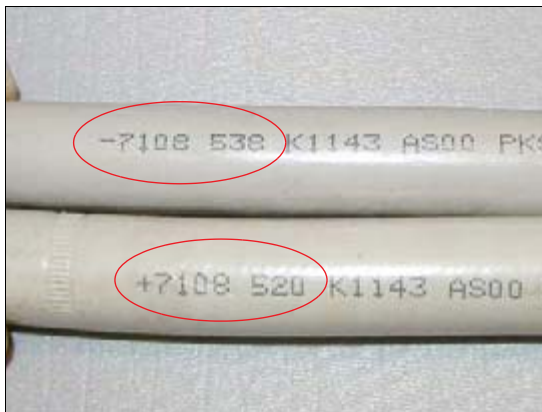

Fig. 38: Identifying HV cable
- ⇒ **It is very important to reinstall the HV cables in their original positions.** Refer to (Fig. 38 / p. 46) for information on how to identify the cables.